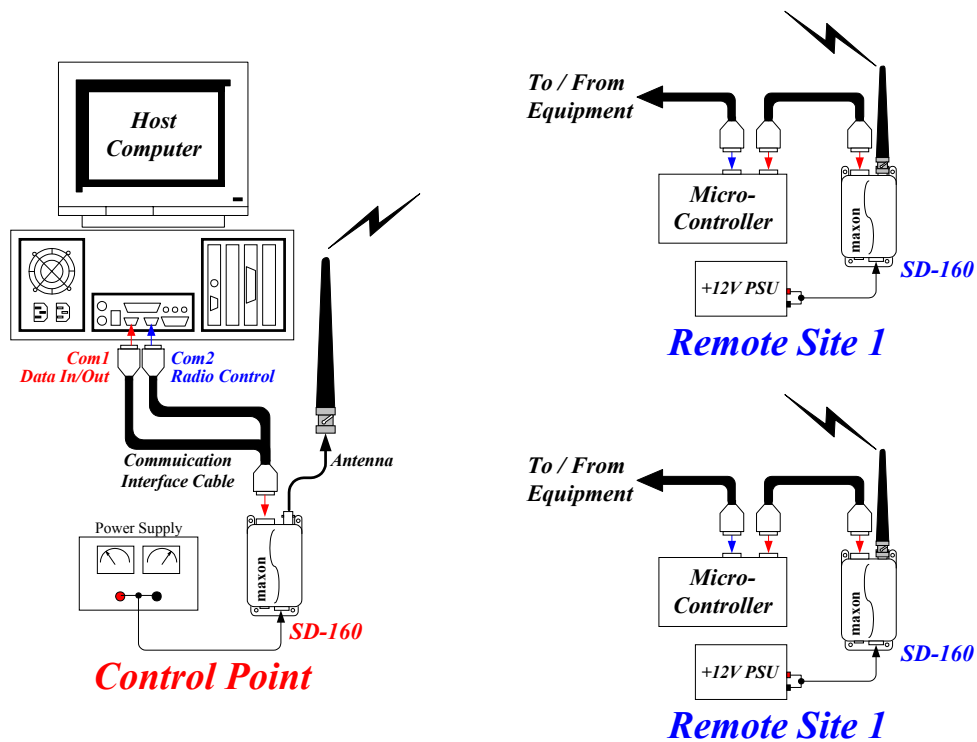

Figure 4.1. Tele-control Application
1. Control point to multiple outstation tele-control. Used for control and exception reporting in water pumping stations and other similar situations. (See Figure 4.1.)